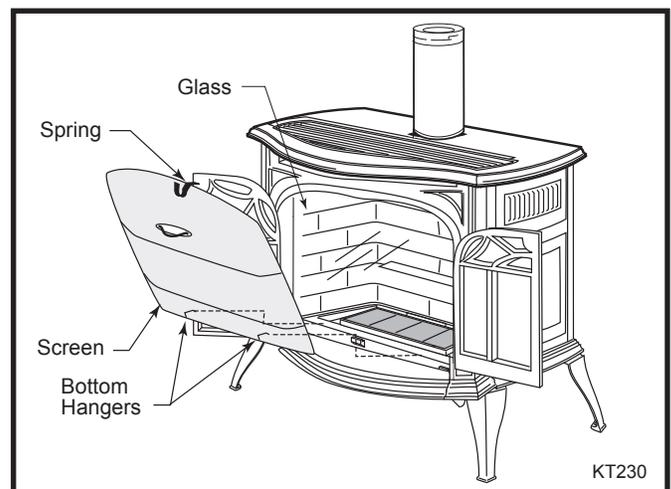

Fig. 45 Hold screen at an angle to attach bottom hangers.
2. With the doors open, hold the screen at an angle with the bottom hanger toward the inside. (Fig. 45)